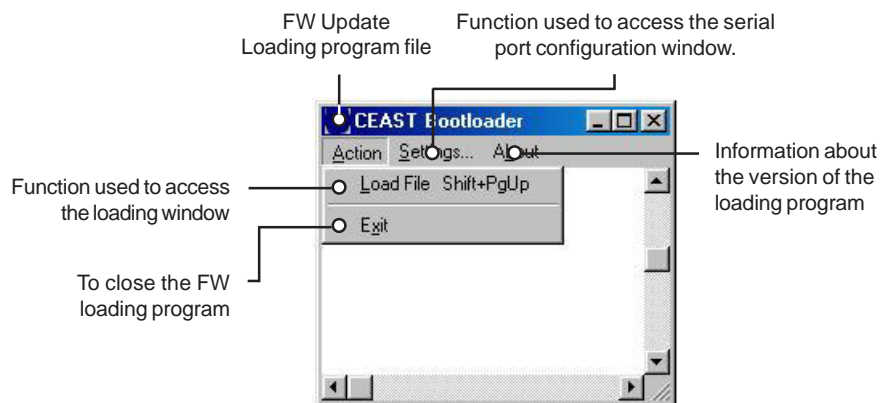

Fig. 2
- ▶ e) Activate the **Setting** configuration menu (Fig. 2).
- ▶ a) Activate the **Load file** operation from the **Action** menu (see Fig. 2).